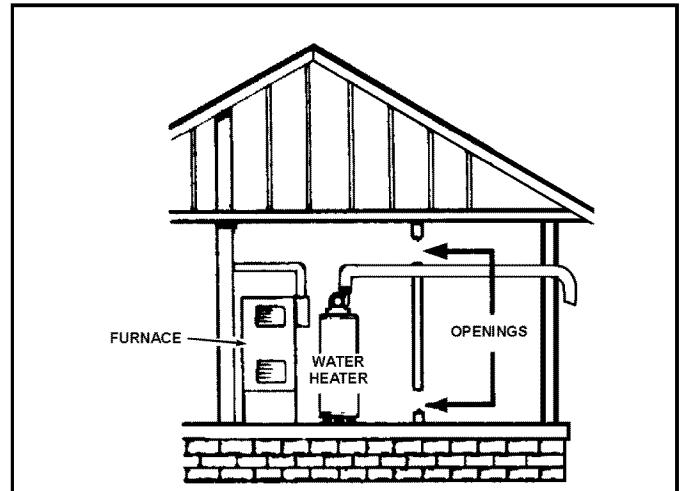

Figure 16.
A. ALL AIR FROM INSIDE BUILDINGS: (See Figure 16)